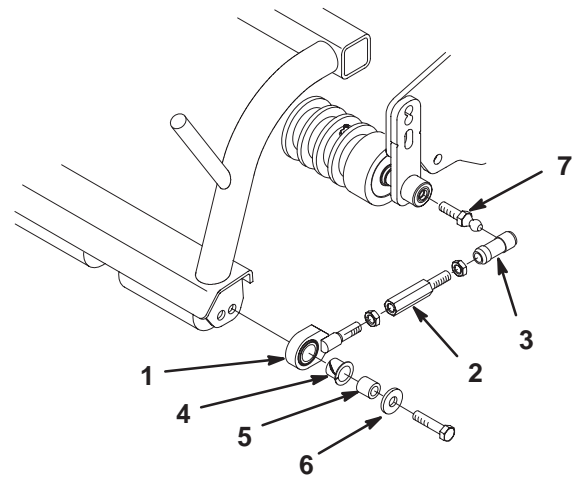

Figure 2
3. Loosely assemble a jam nut, pull link extension, jam nut, and ball joint receiver onto each pull link assembly as shown in Figure 2.
4. Loosely mount a pull link assembly to the rear hole on each end of the carrier frame with a spacer, washer, and capscrew (Fig. 2). Make sure that the nylon bushing is in the pull link.
6. Slide the sleeve back on each ball joint receiver and hook them onto the cutting unit ball studs (Fig. 2). Install the ball stud (included in this kit) if it is not on the cutting unit.